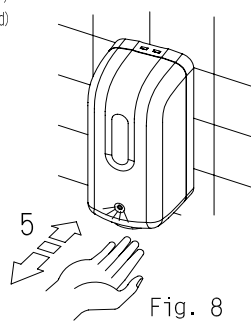

Fig. 8
5. Before installing the soap cartridge, the dispenser needs to cycle through 1-2 times, 1-2 times, to make sure the tip mechanical carriage is properly positioned at the bottom. (Fig. 8&9)
When carriage is stuck to the top, soap cartridge cannot be installed	- Close cover (cartridge removed), trigger sensors 1-2 times to allow carriage to return to bottom, reinstall cartridge. (Fig. 8&9)